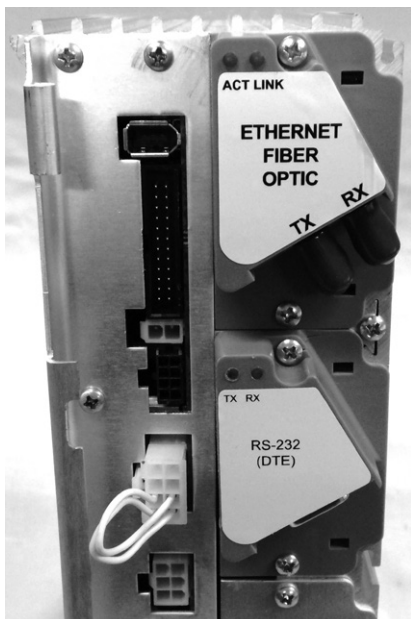

Figure 11. Two communications modules installed
8. A second communications module can be installed in the lower slot (Com Port 2) (Figure 11) or the supplied cover can be placed over the slot if it is not needed (Figure 12). Either the module or cover should be secured with two screws retained in Step 1.